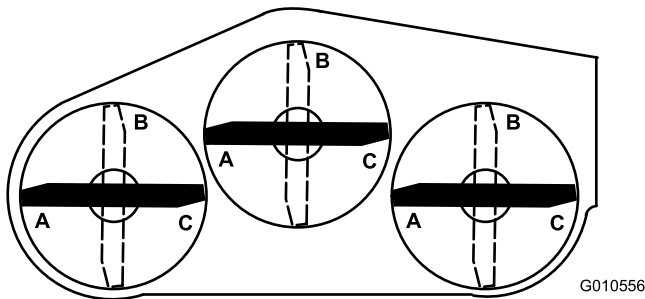
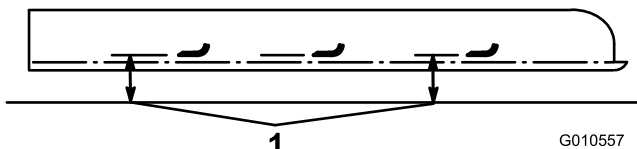

Figure 24
Figure 25
5. Position all 3 blades in the A position (Figure 24) and measure from the level surface to the bottom of the tip end of each blade (Figure 25).
6. Note the measurement attained at A, rotate the blades to the B position (Figure 24), measure the distance of all of the blades to the level surface, and note the dimensions (Figure 25).
7. Rotate the blades to the C position, measure, and note the distance measured (Figure 24 and Figure 25).